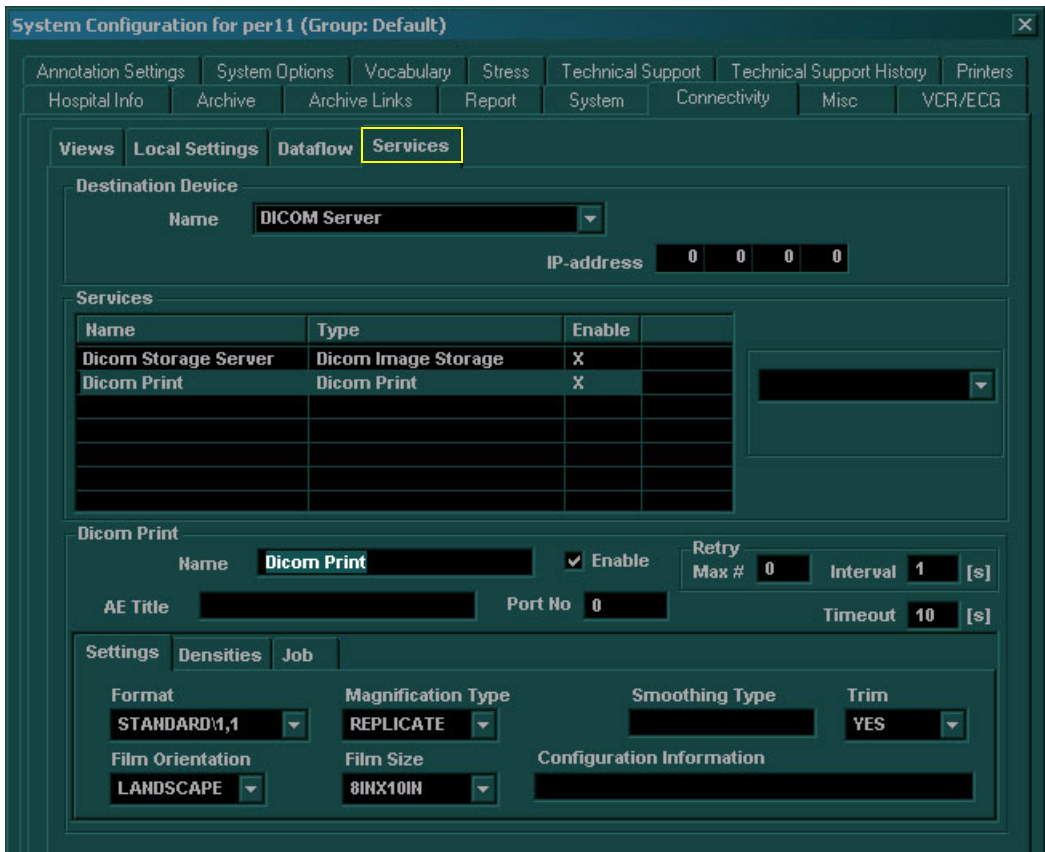

Figure 3-34 Setting up DICOM Print
- 4) Enable the **DICOM printer** option, as required (under the *Services* sub-tab) - see Figure 3-34.